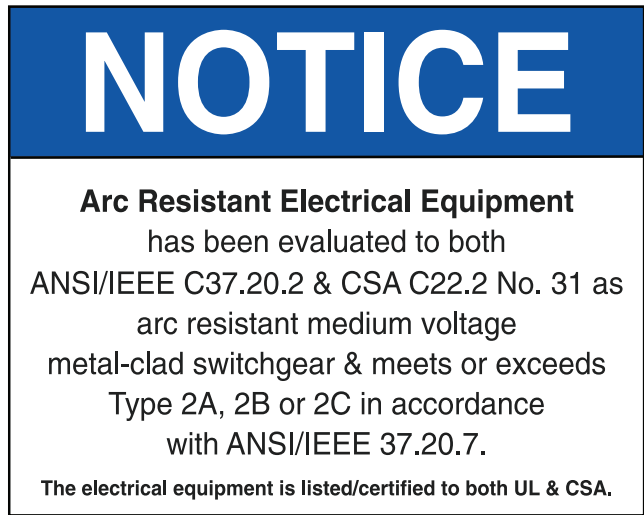

Figure 7. Notice Signage Arc Resistant Electrical Equipment
5. Add specific “Notice” electrical safety signage confirming that electrical equipment is arc resistant electrical equipment and the specific specification and type. It is important that the Qualified Person understands that the electrical equipment is arc resistant and the requirements related to performing energized electrical work tasks. See Figure 7.